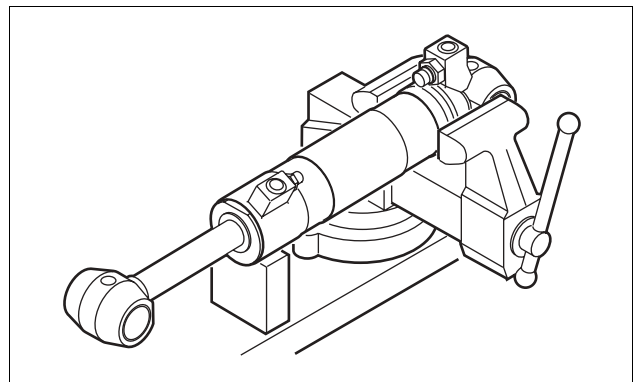

Fig. 24 Fasten the cylinder in a vise
5. Fasten the cylinder in a vise. *See Fig. 24.*